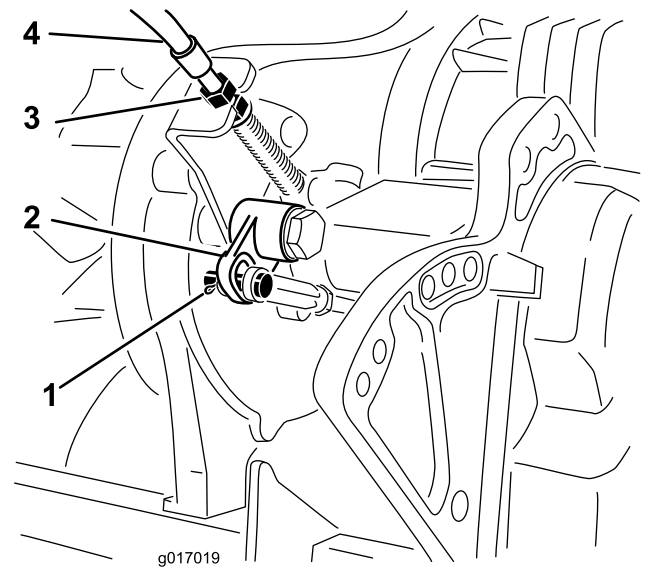

Figure 46
Note: If slack exists, adjust the jam nuts at the bulkhead (Figure 46) to remove the slack from the cable without extending the spring.
4. Remove the cotter pin and clevis pin securing the bell crank rod clevis to the bell crank lever (Figure 46).
5. Disconnect the clevis from the bell crank lever (Figure 46)
8. At the transmission bulk head (Figure 46), adjust the cable jam nuts to decrease the distance to the bell crank to accommodate the previous change.